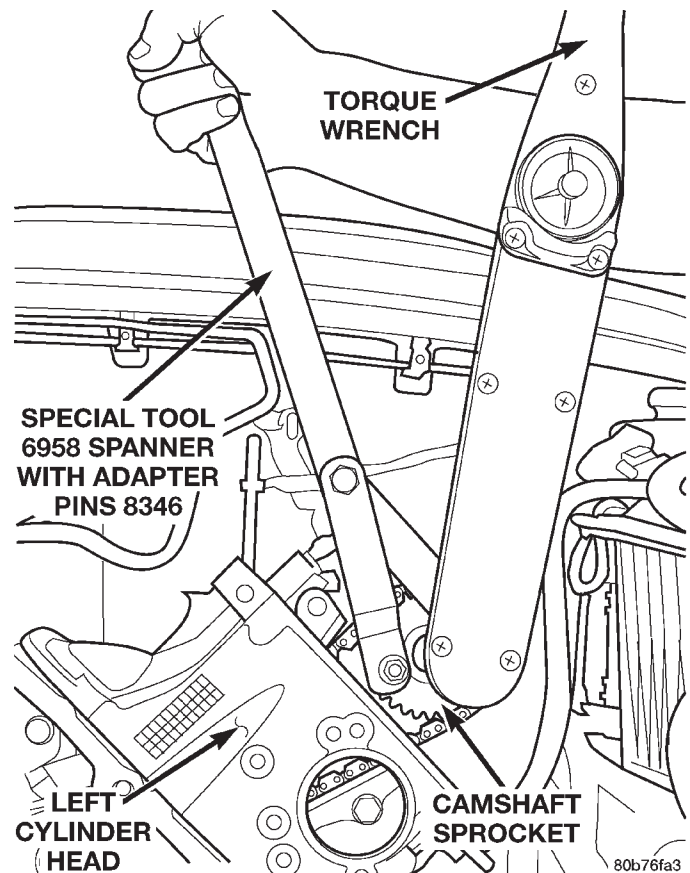
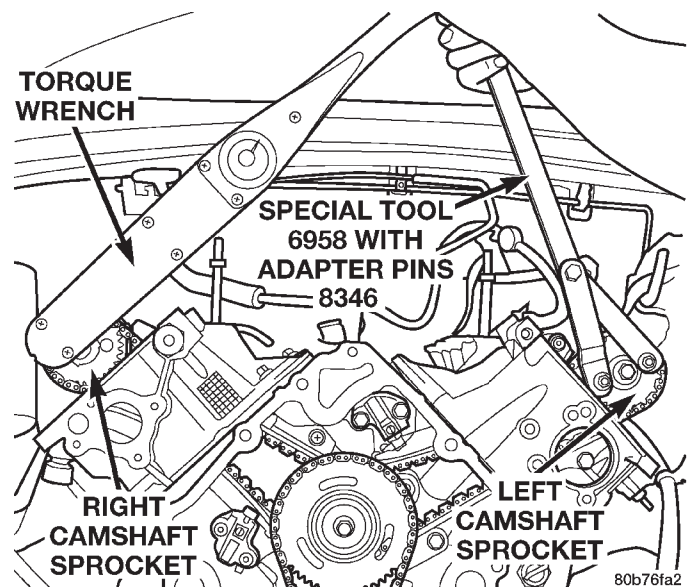

Fig. 72 Tightening Left Side Camshaft Sprocket Bolt
Fig. 73 Tightening Right Side Camshaft Sprocket Bolt
(18) Using Special Tool 6958, Spanner with Adapter Pins 8346, tighten left (Fig. 72) and right (Fig. 73). camshaft sprocket bolts to 122 N·m (90 ft. lbs.).